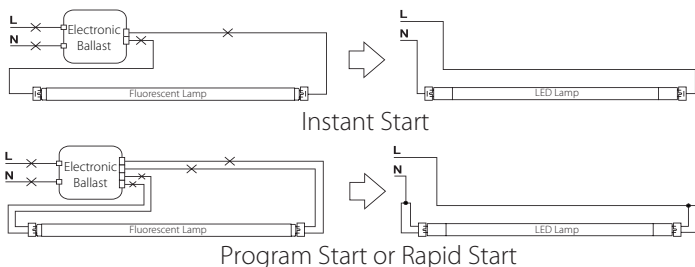

Fig: 2 - Retrofit luminaire with One Lamp
8. Make sure all sockets are replaced and wired according to the appropriate wiring diagram (Fig. 2, 3, 4, 5).